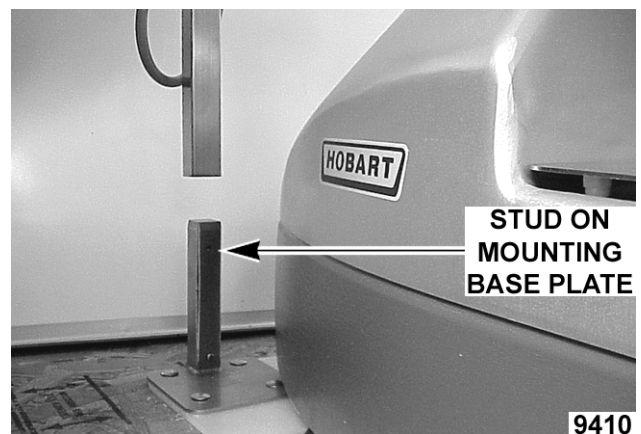

Fig. 2
8. Insert heat lamp assembly onto Mounting Base Plate (Fig. 2). Secure with thumbscrew.